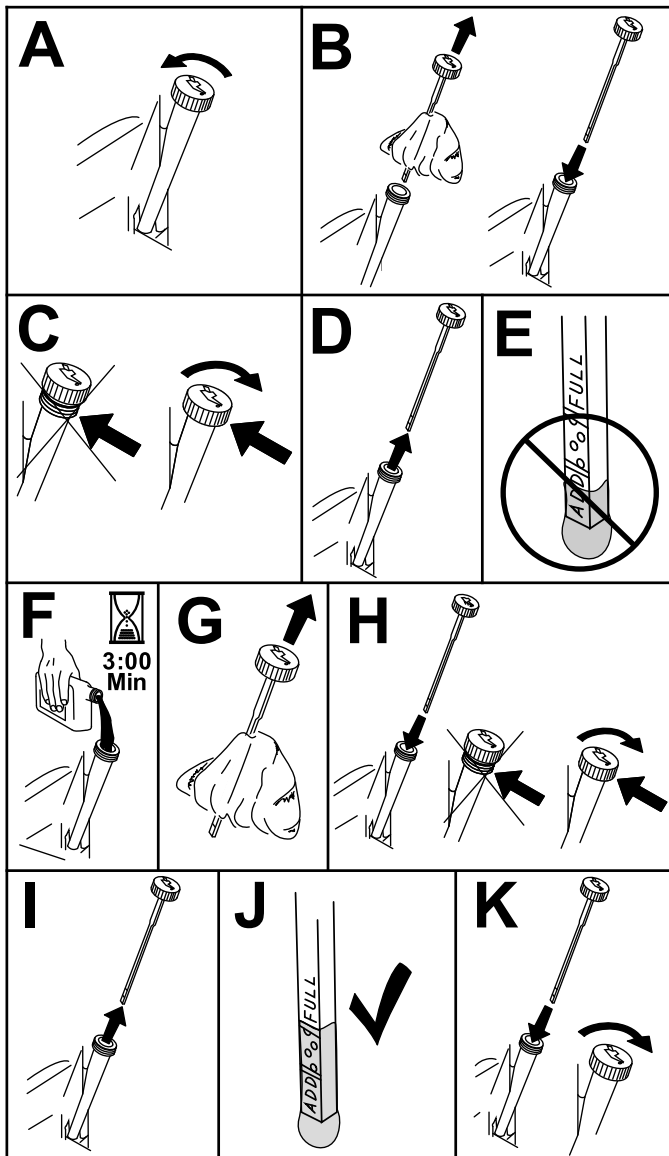

Figure 67
- To keep dirt, grass clippings, etc., out of the engine, clean the area around the oil-fill cap and dipstick before removing it (Figure 67).